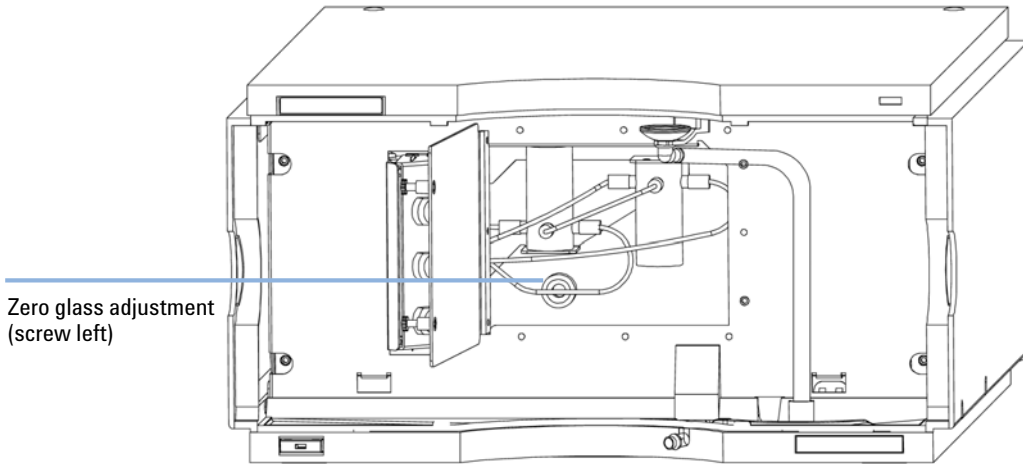

Figure 33 Turning the zero glass adjustment screw
- a** While monitoring the optical balance use the flat-headed screwdriver to turn the zero glass adjustment screw slowly (see Figure 33 on page 115).